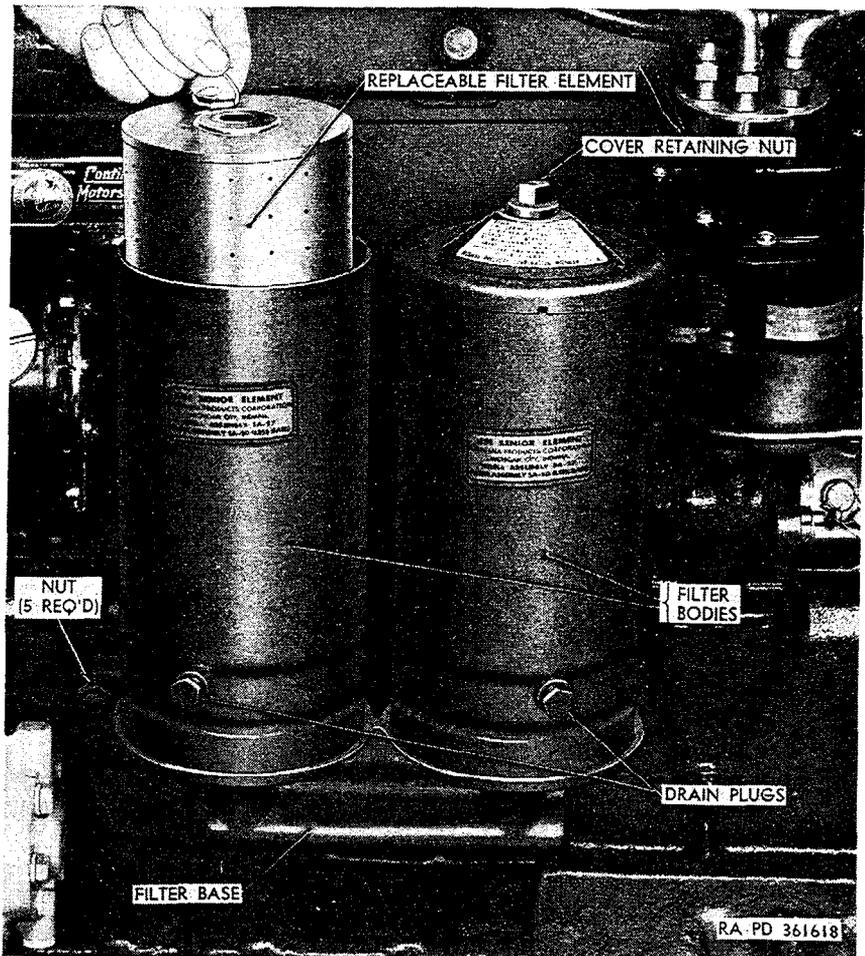

Figure 129. Replacing oil filter elements.
a. Oil Filter Element Replacement (fig. 129).
- (1) Remove drain plugs from sides of filter bodies, and drain oil and accumulated sludge from filters.
- (2) Loosen filter cover retaining nuts, remove covers and springs, and lift elements from filter bodies and discard.
- (3) Clean inside of filter bodies and covers with dry-cleaning solvent or volatile mineral spirits.
- (4) Install drain plugs and new filter elements on cover retaining studs.
- (5) Position cover springs on top of filter elements, position filter body covers over retaining studs, and press down on covers to compress springs and install retaining nuts on studs. Tighten nuts.
(6) Start engine and run until normal operating temperature (160° to 180° F.) is reached. Examine filters thoroughly for oil leaks.
b. Removal. Remove five nuts and lockwashers at filter base (fig. 129) and slide filter assembly off mounting studs. Remove and discard filter mounting gasket.
(1) Thoroughly clean gasket surfaces on crankcase and filter base, and install new gasket on oil filter mounting studs at lower left side of crankcase.
(2) Position oil filter assembly on mounting studs and install five lockwashers and nuts. Tighten nuts.
(3) Start engine and run until normal operating temperature (160° to 180° F.) is reached. Examine entire oil filter assembly for oil leaks.